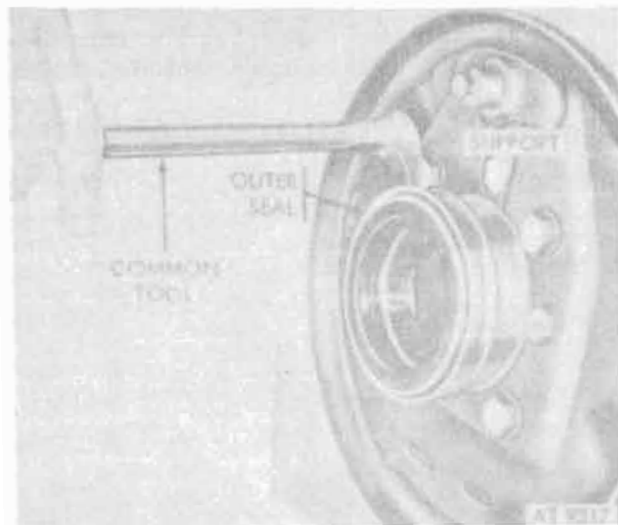

Figure 11-20. Removing outer seal and retainer from spindle support.
a. Using common tool, remove outer seal and retainer from spindle support (fig. 11-20).